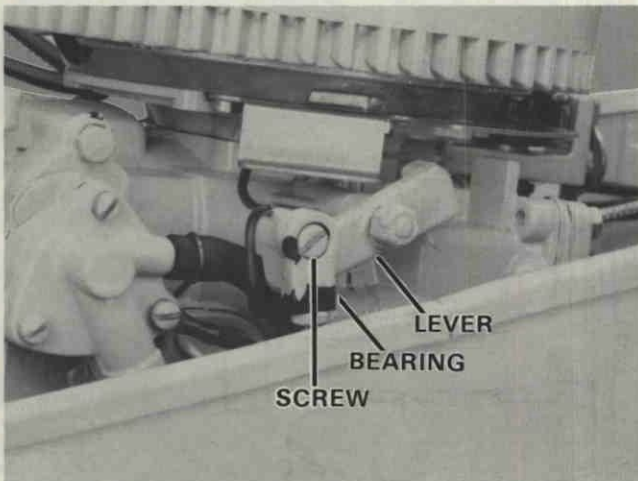

Figure 9. Disconnecting Interlock Lever.
- A. Remove swivel screw securing interlock link bearing to interlock lever. Figure 9.